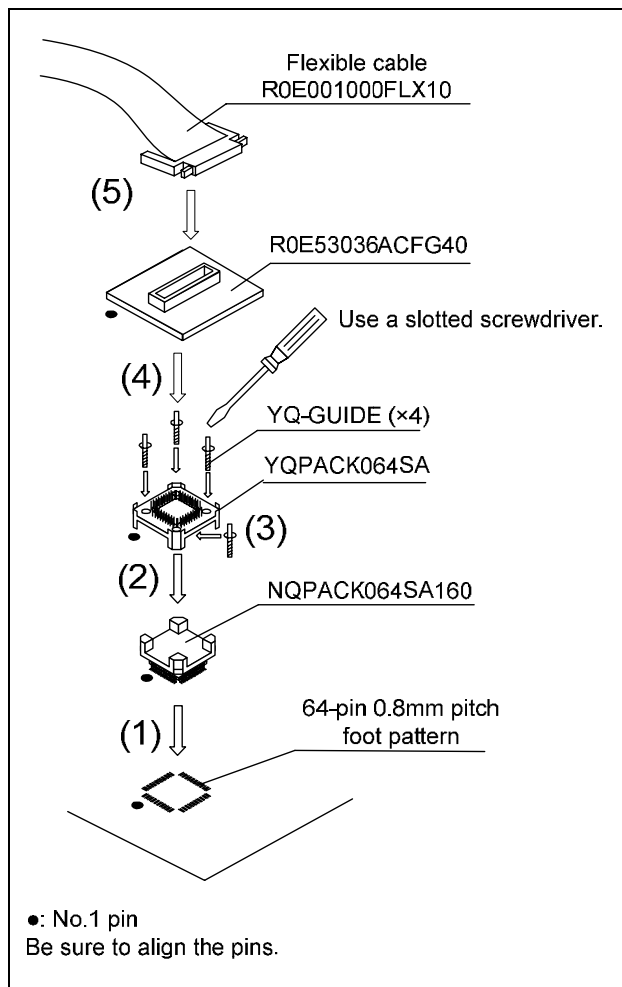

Figure 3 Connection procedure of the R0E53036ACFG40
5. Connection Procedure (See Figure 3)